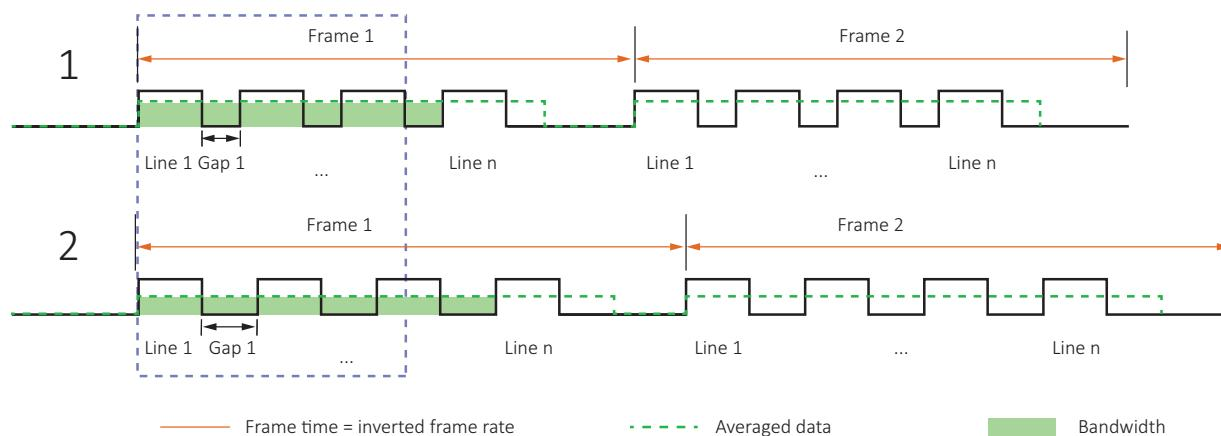

Figure 100: Sensor data output and camera data output
Figure 100 shows the bandwidth for a higher (1) and a lower (2) value for `DeviceLinkThroughputLimit` with Alvium G1.
- When high-resolution Alvium G1 cameras are operated at higher frame rates, corrupted frames can occur. This is shown schematically in Figure 100.